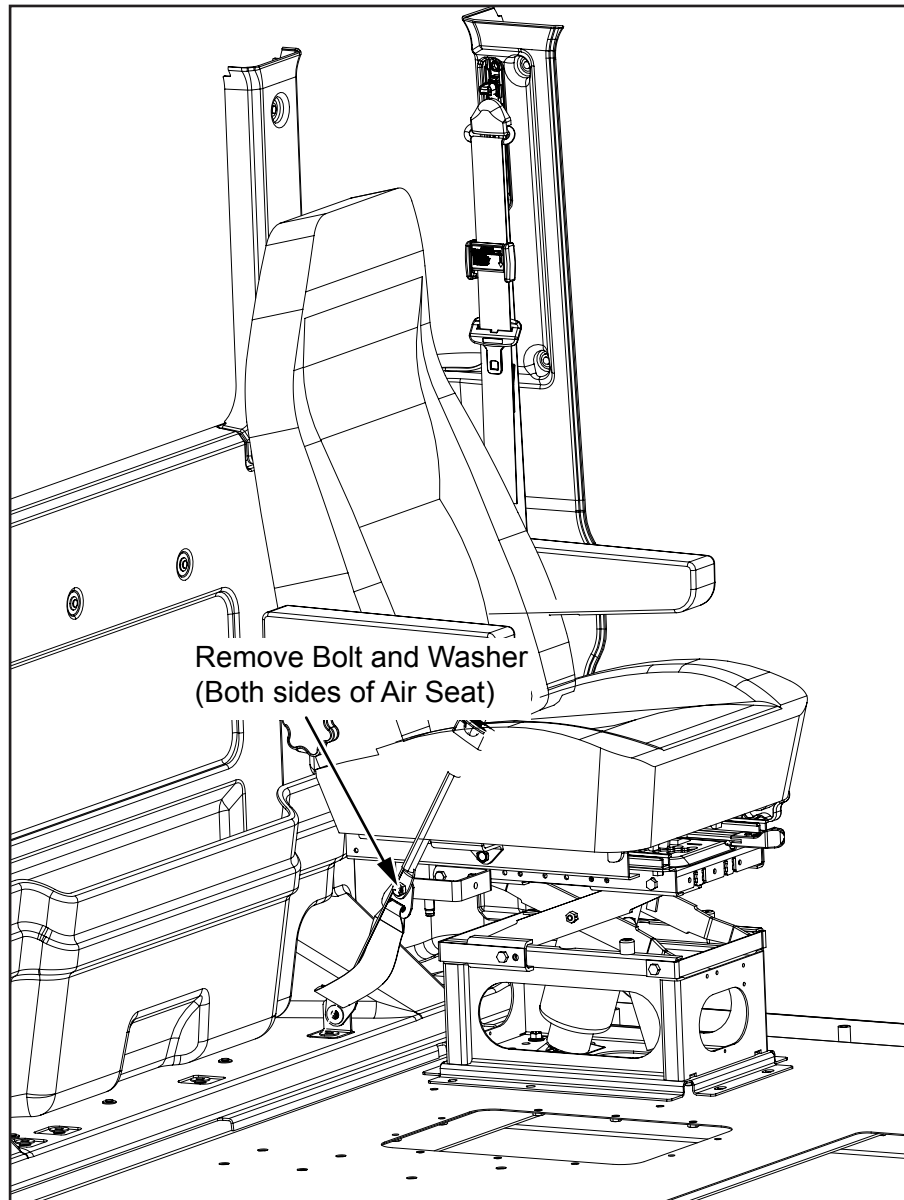

Figure 10
11. Remove (2) 7/16" bolts and washers and discard. Repeat step 11 for the opposite side of air seat (see *Figure 10*).